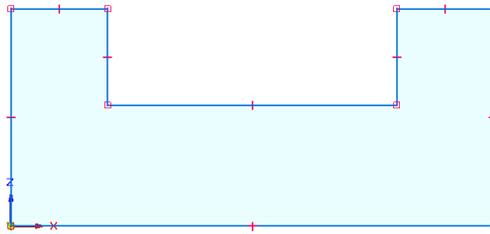

Figure 2-46 Sketch after drawing the lines
16. Choose the **Select** tool from the **Select** group of the **Home** tab to exit the **Line** tool. On doing so, the profile gets shaded indicating that it is a closed region. The sketch after drawing the lines is shown in Figure 2-46.